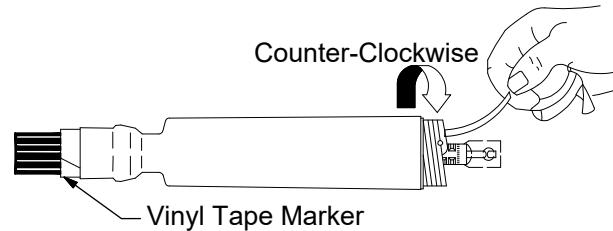

Figure 4
9. Re-position the terminator body on the cable and remove the core. Make sure the terminator body (not the core) is butted up to the edge of the vinyl marker tape. While removing the core, unwind it in a counter-clockwise direction. See Figure 4.